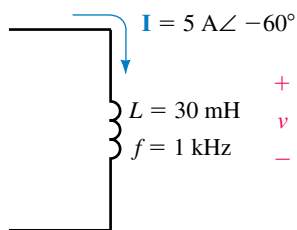

FIGURE 18-82
7. Repeat Problem 5 for the component shown in Figure 18-82.